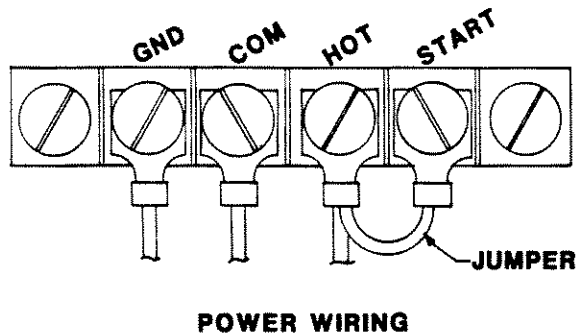

Fig.5-2
E. To check the integrity of the push-to-start function, remove the wire from the start terminal (See Figure 5-2) and add a jumper wire from the "hot" terminal to the "start" terminal.